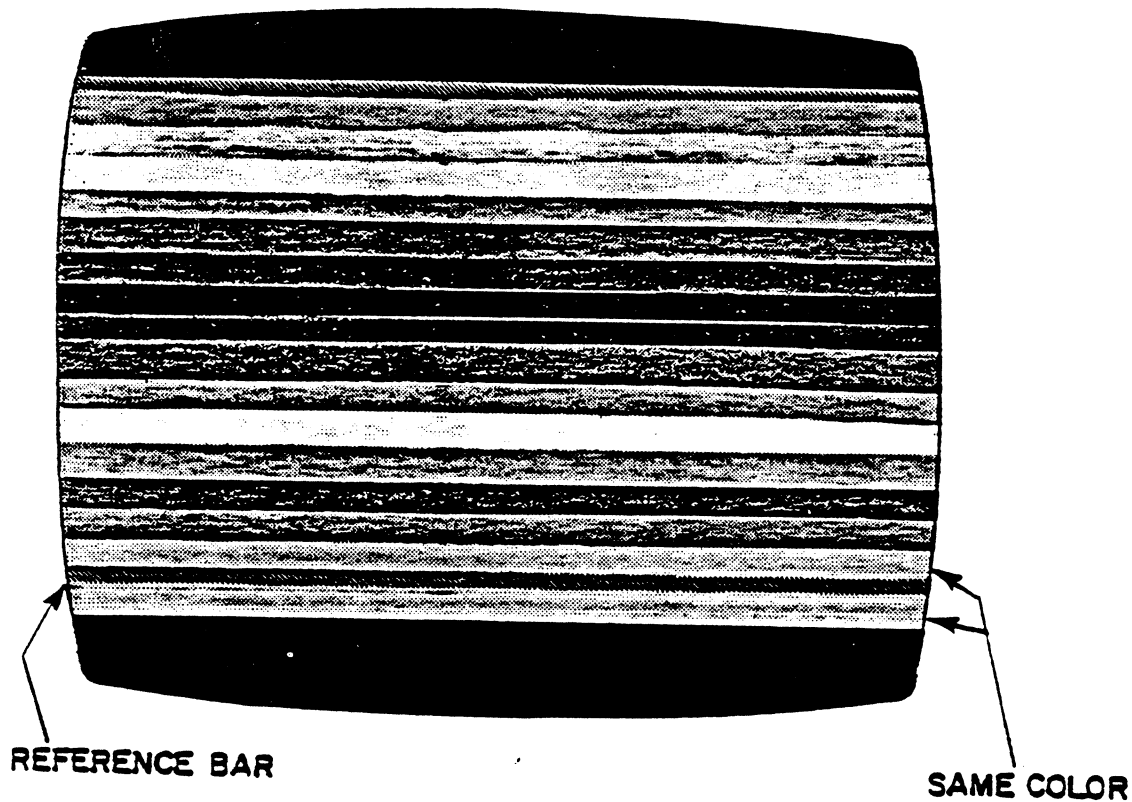

Figure 3-3. Color Bar Test Screen
This test verifies and allows for adjustment to the color circuitry. Enter the command letter **C** and press **RETURN** to activate this test. Figure 3-3 is a black and white representation of what your television display screen should look like.
3. Adjust RF modulator for correct Color Bar Test Screen (See Page 3-6, Figure 3-3).